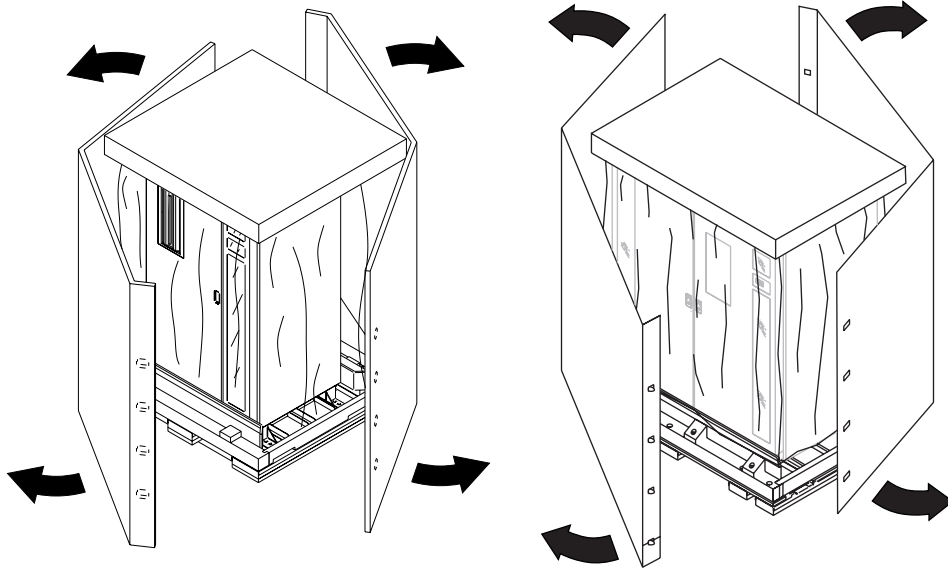

Figure 4-4. Removing the cardboard box
6. Unwrap the cardboard box from the library (see Figure 4-4).